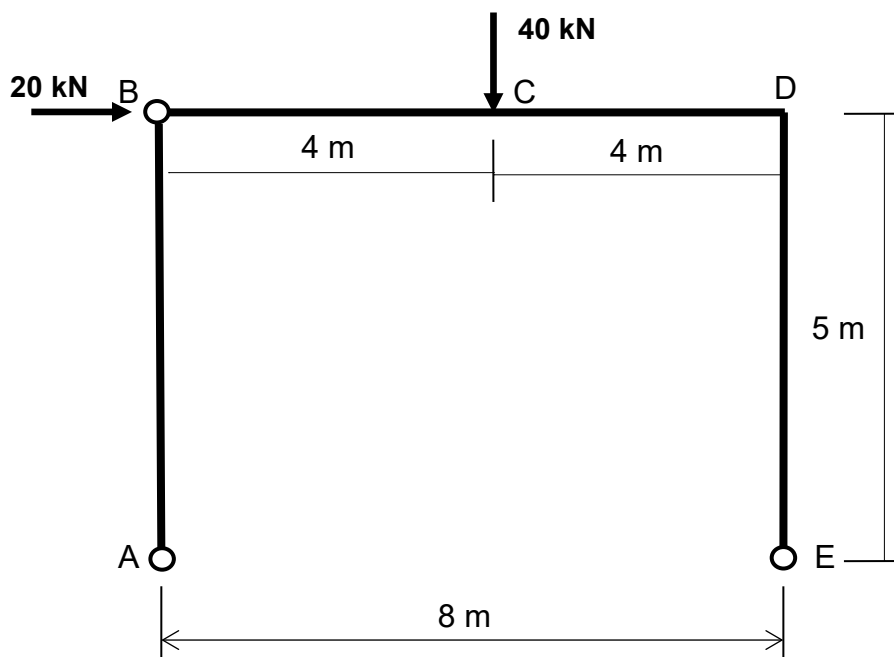

FIGURE Q2 (ii)
- e) Without doing any further calculations, sketch the Bending Moment Diagram (BMD) for the three pin frame shown in Figure Q2 (ii). Do not attempt to calculate the values of the bending moments in the frame.